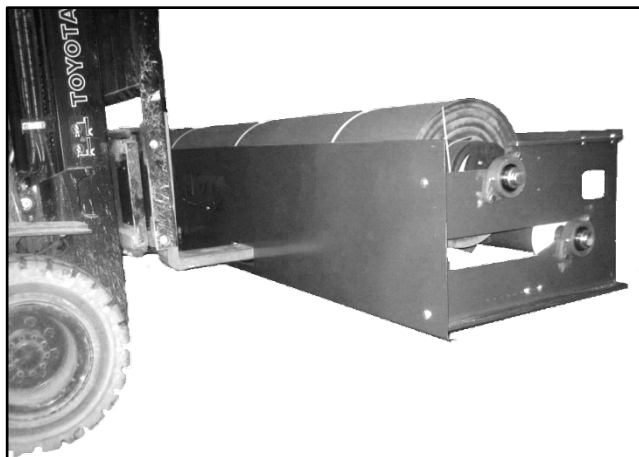
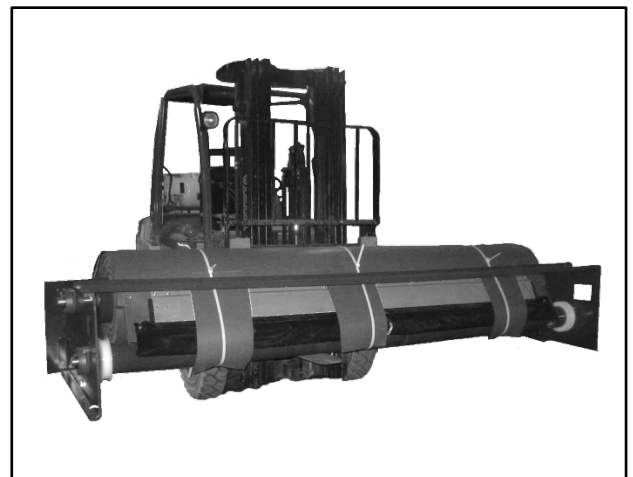

Figure 15
Figure 16
2. Secure the head assembly with C-clamps and a strap around the front spreader, door panel drum, and the idler drum to the forks of the forklift or mechanical lift before lifting it into position. C-clamps should be used on both sides of the front spreader to secure the head in place. (See Figure 16 - 18)
1. Remove the head assembly from the crate. Using a fork lift, guide the forks into the slots in the front of the head assembly making sure that the forks are below the panel and idler drum. The lifting slots are provided to aid in lifting the head and preventing damage to the foam panel, drum, and head assembly. (See Figure 15 and Figure 16)